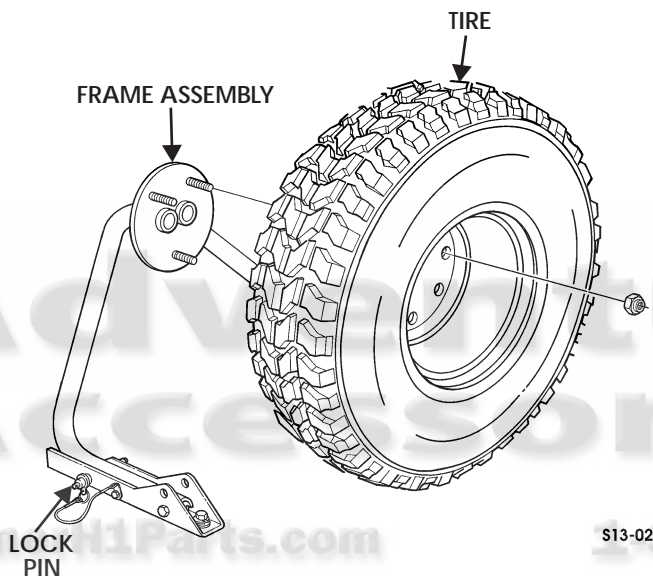

Figure 13-30: Cargo Deck Mounted Spare Tire
1. Disconnect two lock pins and raise frame assembly to upright position (Figure 13-30).
5. Install tire on frame assembly with three lug nuts (Figure 13-30).